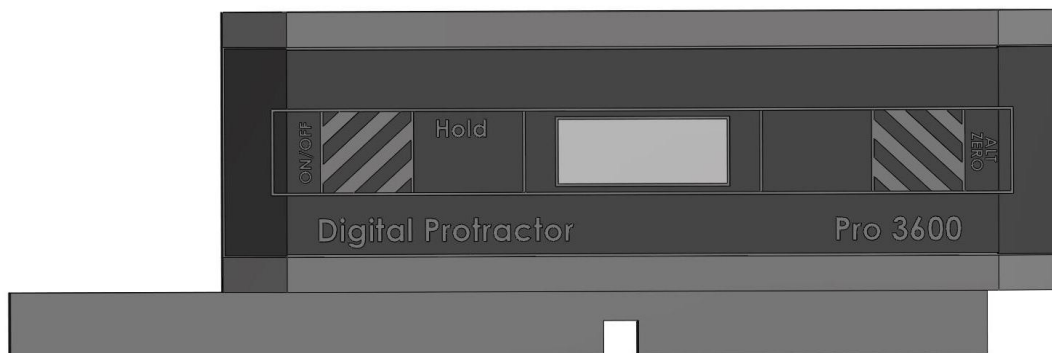

Figure 1—Digital Level
- Digital Level (see *Figure 1—Digital Level*)